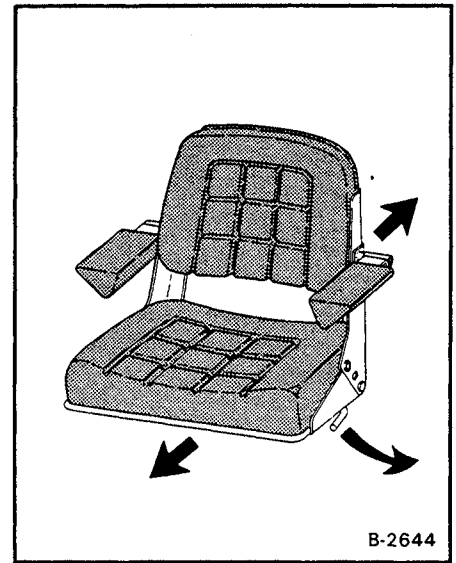
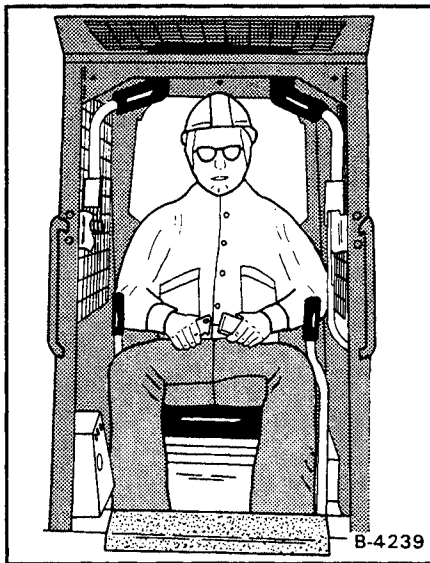
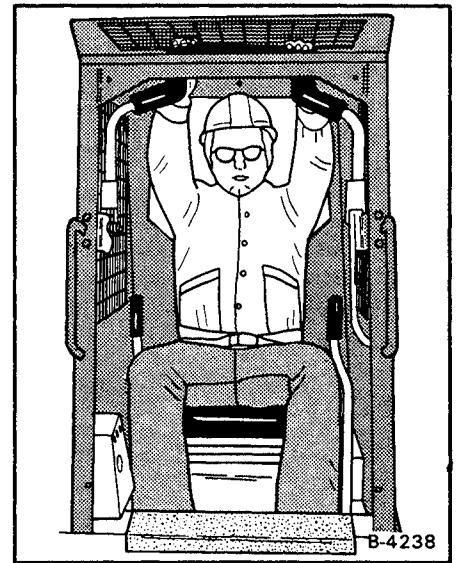

Fig. 2 Adjusting the Seat
Fig. 3 Fastening Seat Belt
Fig. 4 Lowering Seat Bar
2. Adjust the seat position (Fig. 2) for easy operation of the loader. Adjust and fasten the seat belt (Fig. 3). Lower the seat bar into the operating position (Figs. 4, 5 and 6). Check that the parking brake is engaged before you start the engine.